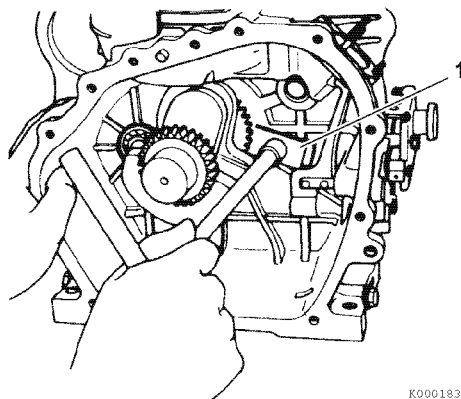

Figure 6-48
16. Remove the crankshaft bearing retainer fastener and bearing retainer (1, Figure 6-48) from inside the crankcase.